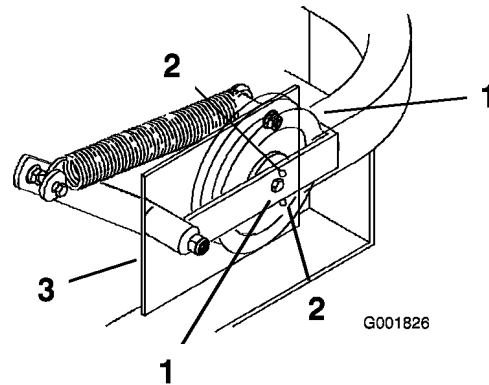

Figure 57
Important: Check and make sure the belt is installed into both the front and rear belt guides (Figure 57).
- Check the belt tension. The spring loaded idler center bolt needs to be near the top alignment hole in left support plate (Figure 57).